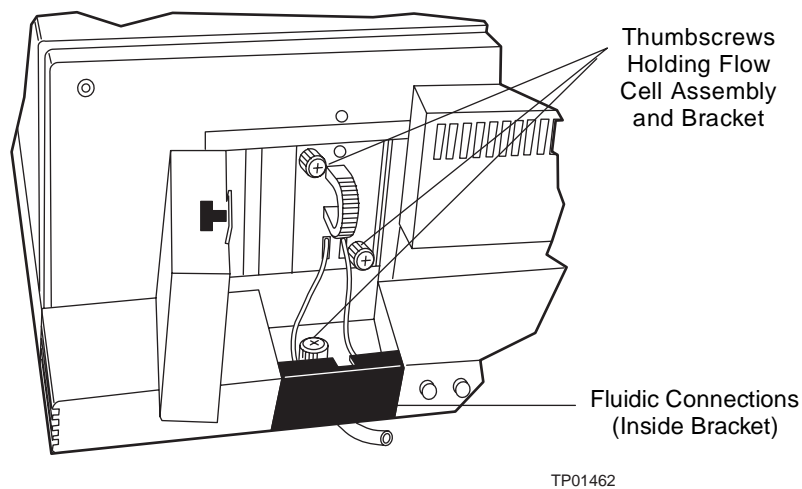

Figure 3-2 Removing the Flow Cell Assembly
- 6. Use the Phillips screwdriver to loosen the two thumbscrews that hold the flow cell assembly to the optics bench and the thumbscrew that secures the bracket holding the fluidic connections, then detach the bracket (Figure 3-2).